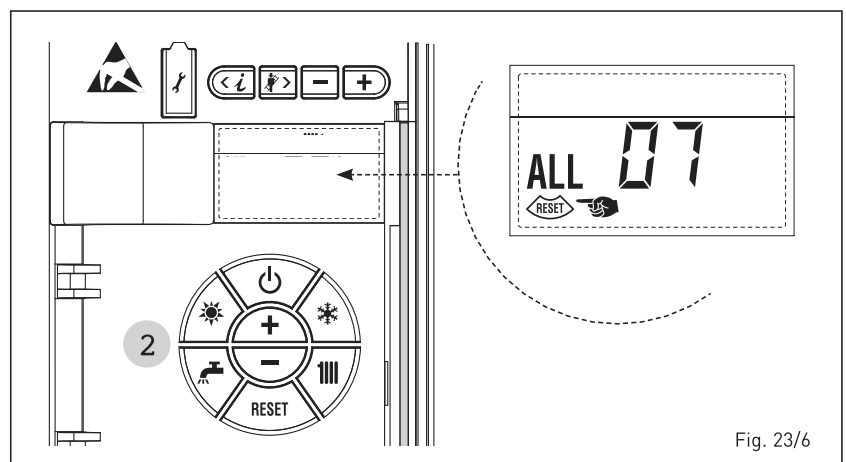

Fig. 23/6
- PARASITE FLAME ANOMALY ALARM 08 (fig. 23/7)